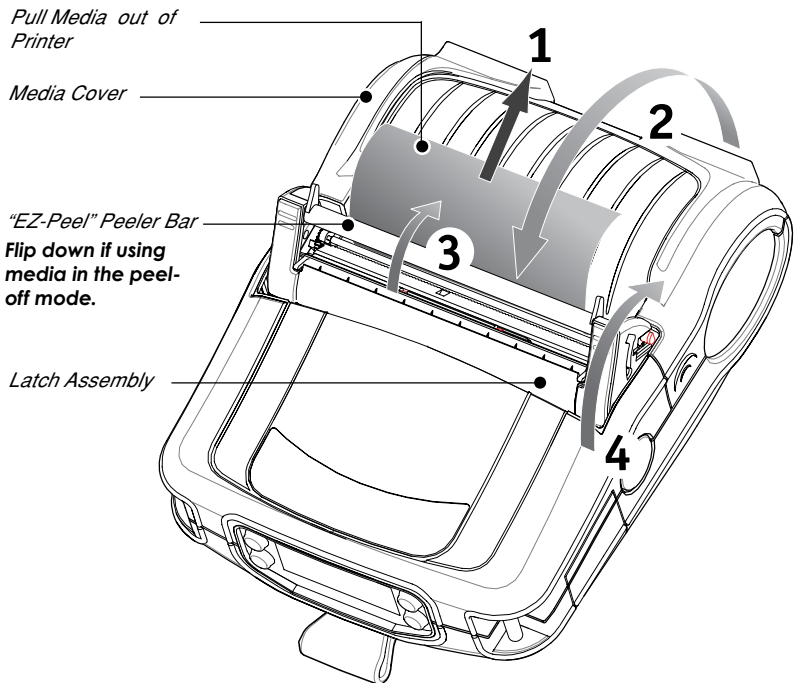

FIGURE 8: CLOSING THE QL 420
3. Close the Media Cover Refer to Figure 8.